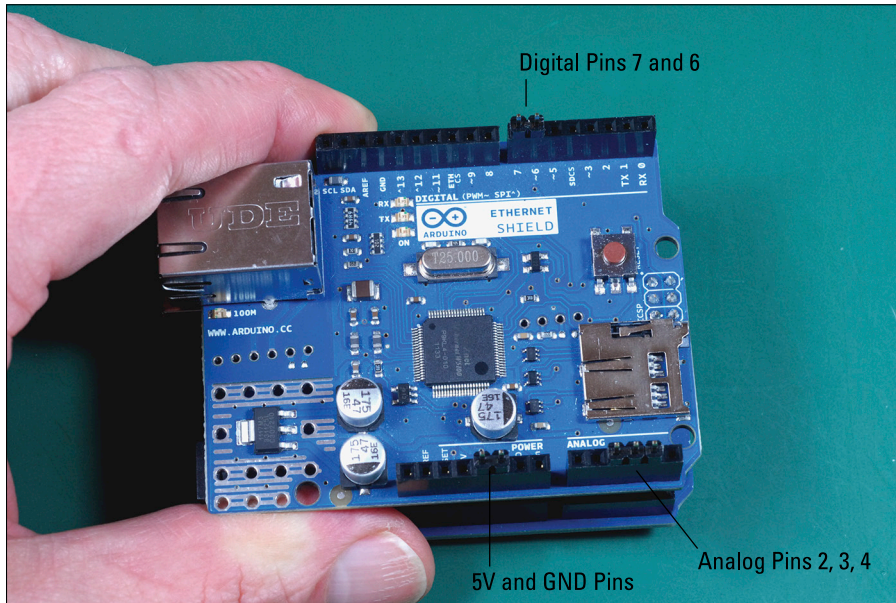

Figure 12-11:
2. Insert the pins into the header sockets on your Arduino, as shown in Figure 12-11.